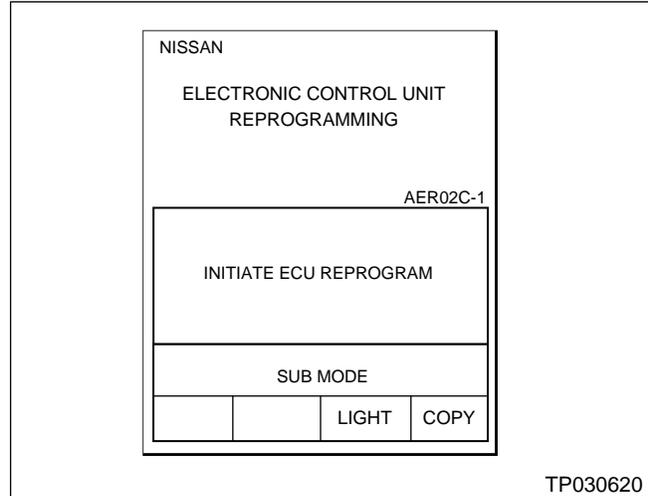

Figure 4
**CAUTION: DO NOT connect the CONSULT-II AC power supply for items 1 and 2.**
1. Press **SUB MODE** (see Figure 4) then: